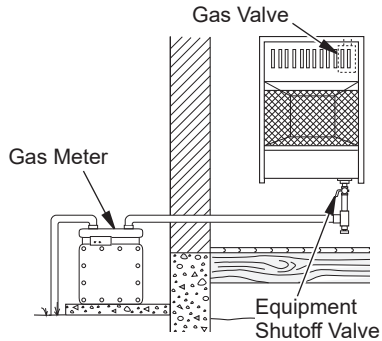

Figure 14 - Natural Gas Supply
3. Check all joints from gas meter to equipment shutoff valve for natural gas or propane supply to equipment shutoff valve for propane (see Figure 14 or 15). Apply a noncorrosive leak detection fluid to all joints. Bubbles forming show a leak.
4. Check all joints from equipment shutoff valve to control valve (see Figure 14 or 15). Apply a noncorrosive leak detection fluid to all joints. Bubbles forming show a leak.